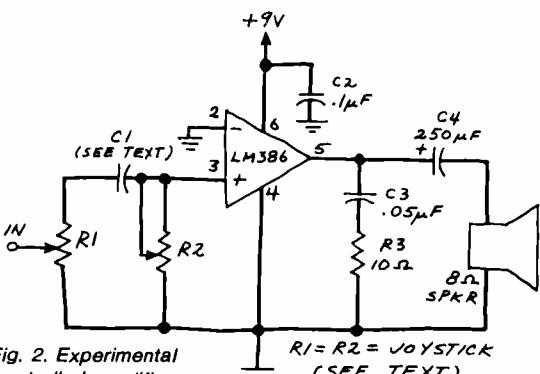

Fig. 2. Experimental joystick-controlled amplifier.
**Joystick-Controlled Tone and Amplitude.** Figure 2 shows an experimental joystick tone- and amplitude-controlled amplifier. In operation,  $R_1$  controls the amplitude of the signal while  $C_1$  and  $R_2$  serve as a simple, but adjustable, tone-control filter.